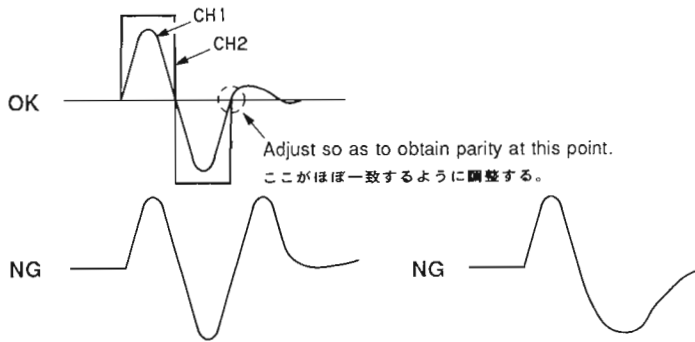

Fig. 6
- ③ Select Mode 5 (ref. page 14).
- ④ Select the spindle Mode 03 (CD mode, ref. page 15) then push PAUSE (KICK HOLD mode).
- ⑤ Adjust VR306 until the waveform at TP314 matches the waveform as shown in figure 6.
- ⑥ Press PLAY button to cancel KICK HOLD mode.
- Note:** To obtain the waveform shown in the picture on the oscilloscope; (1) set the trigger selector to CH2 (Channel 2 triggering), (2) set the trigger mode to the normal trigger mode (3) adjust the trigger level so that the waveform of CH2 coincides with CH1's waveform (see Waveform Photo 9).
- ④ VR306にてFig. 6の様な波形になるように調整する。
- ⑤ PLAY KEYを押してKICK HOLDを解除する。